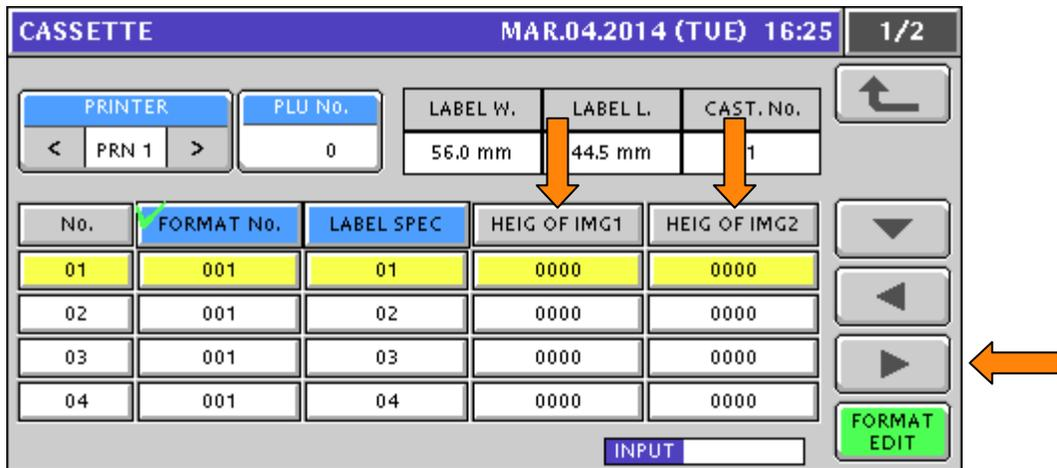

Figure 7.11 Label Cassette Setup: Height of Logo Image 1 Type and Height of Logo Image 2
36. Press the ► button to move to the next page. See Figure 7.11.